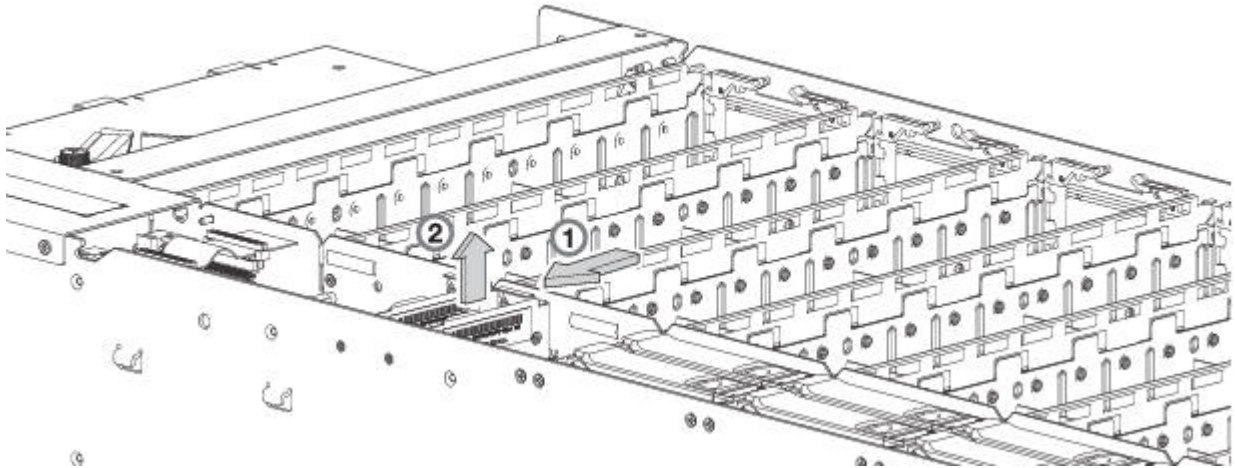
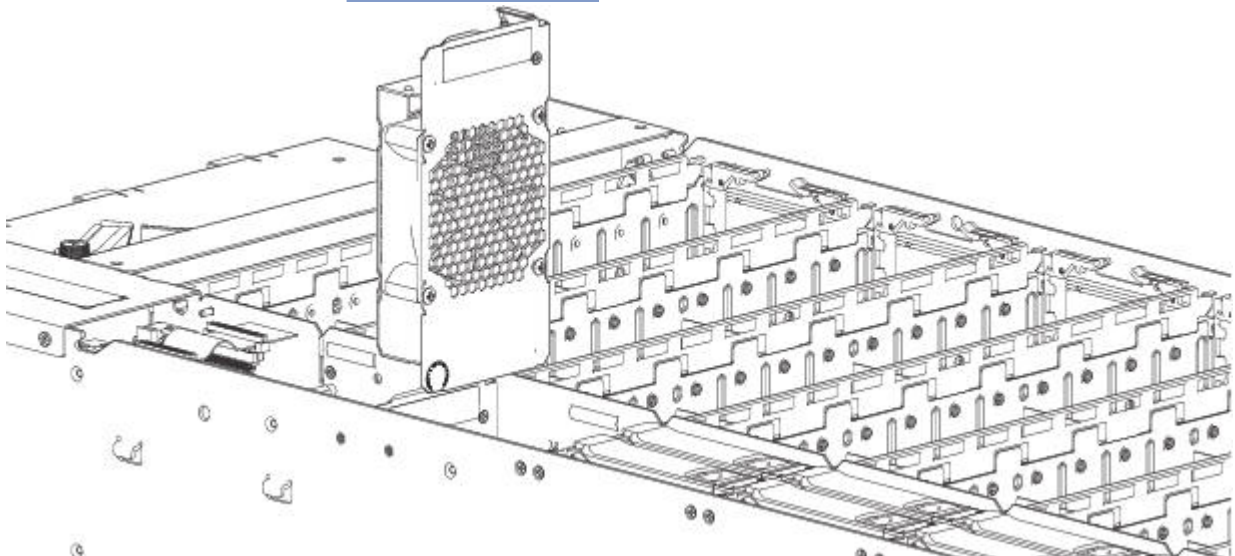

Figure 65. Removing a controller fan (1 of 2)
Figure 66. Removing a controller fan (2 of 2)
1. Grasp the latch tab on the interior channel wall of the enclosure, and squeeze the tab against the wall to release the channel fan from its locked position as shown in Figure 65 on page 73.
2. With your other hand, grasp the handle located on the top of the fan, and pull upwards to remove the fan from its slot as shown in Figure 66 on page 73.
Refer to Figure 65 on page 73 and Figure 66 on page 73 when performing this procedure, but ignore the directional arrow—since you will insert the module into the slot—rather than remove it.